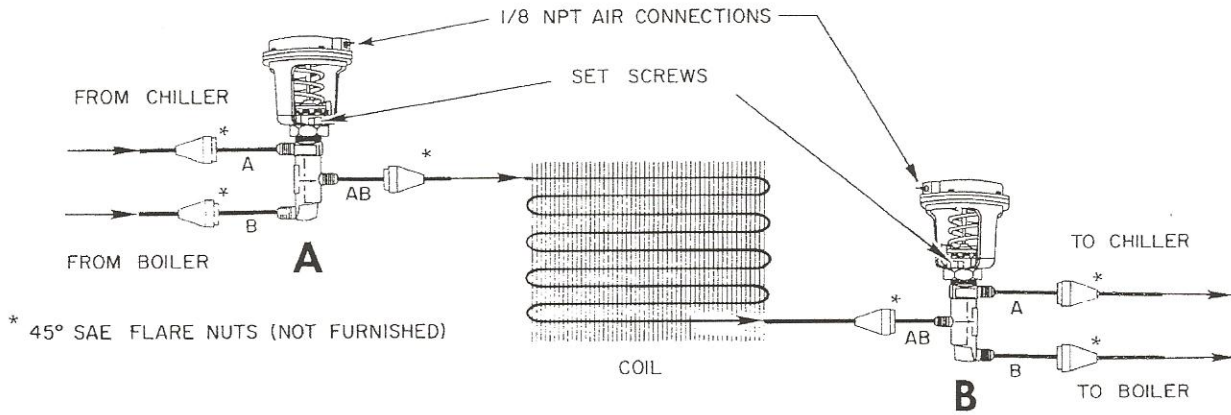

Fig. 2. Typical VP522A & B Valve Installation.
2. Mount the valves directly into the water line using 45-degree SAE flare nuts (not furnished), as shown in Figure 2.